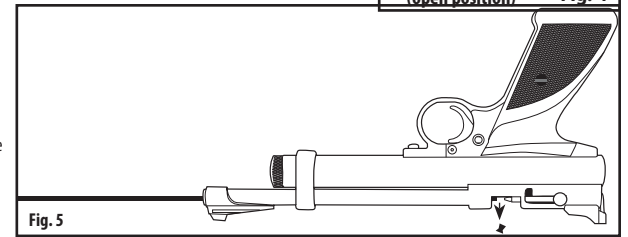

Fig. 5
- With the bolt in the open position, insert a ramrod (sold separately) into the muzzle end of the barrel and gently push the jammed pellet in to the pellet loading port (forward of the bolt) (Fig. 5).